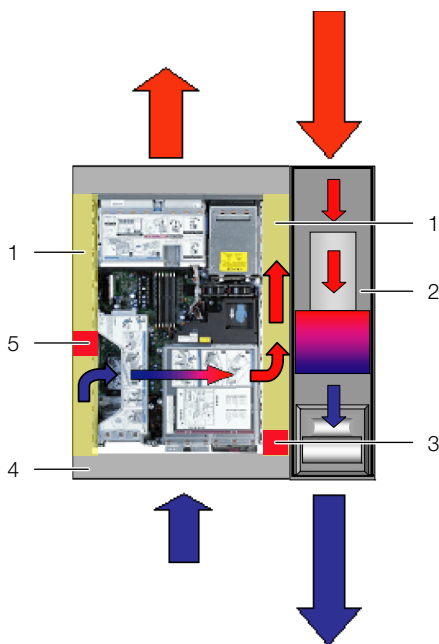

Fig. 11: Placement of foam strips for devices with sideways air throughput (top view)
- If several devices which require sideways air throughput are included, cut out several pieces of the foam strip, as is appropriate, so that, ultimately, there is a cut-out in the foam to the left or right at the height of each such device in the server rack. Ensure that there are no gaps on the hot air side of the devices (fig. 11,
- Attach the foam strips to the cold air side of the devices set back towards the rear (fig. 11, item 5), making sure that all fans built into the devices can draw air and that none of them are blocked.
The foam strips can be attached between the front and rear uprights of the server rack along the entire depth of the devices with sideways air throughput (fig. 11, item 1).